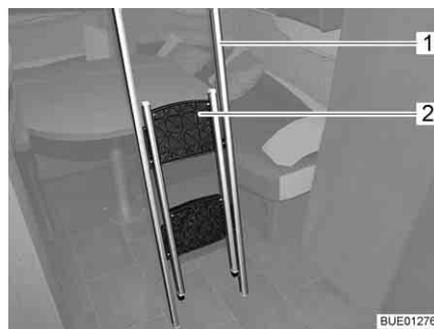
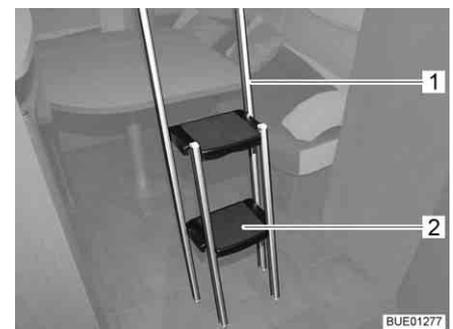

Fig. 96 Access ladder, folded in
Fig. 97 Access ladder, folded out
- Grasp the upper edge of the folded-up part (Fig. 96,2) of the access ladder (Fig. 96,1) and unfold it so that all four feet are securely on the ground (Fig. 97).
- Fold in steps (Fig. 97,2).
- Hang the access ladder (Fig. 97,1) from the holding bar (Fig. 95,3) on the pull-down bed.